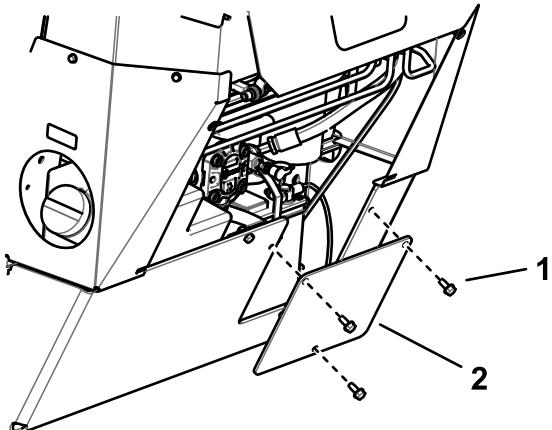

Figure 37
5. Install the battery-access panel (Figure 37).